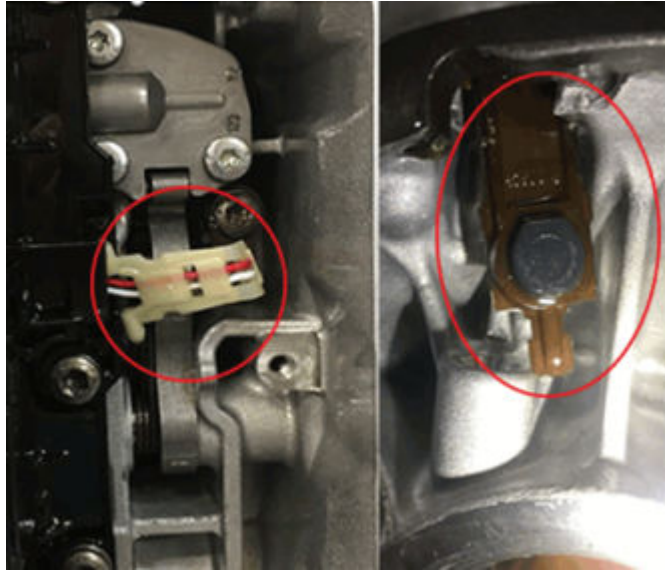

Fig. 45
68. **This is the correct installation and pin alignment Fig. 45.**